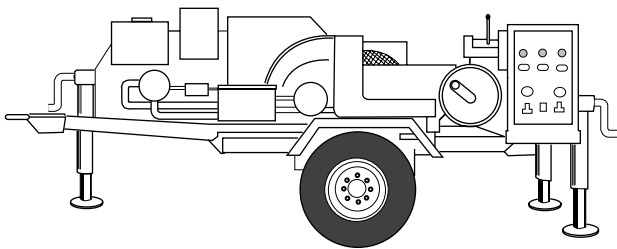

Figure 10 Winch
**4.27** A dynamometer or in-line tensiometer may also be used to monitor tension in the pull-line near the winch. This device must be visible to the winch operator or used to control the winch. Special winches are available that monitor the tension remotely at the pulling eye via a wire in the pull-line. Such winches may also provide a record of the tension during pulls (Figure 10).